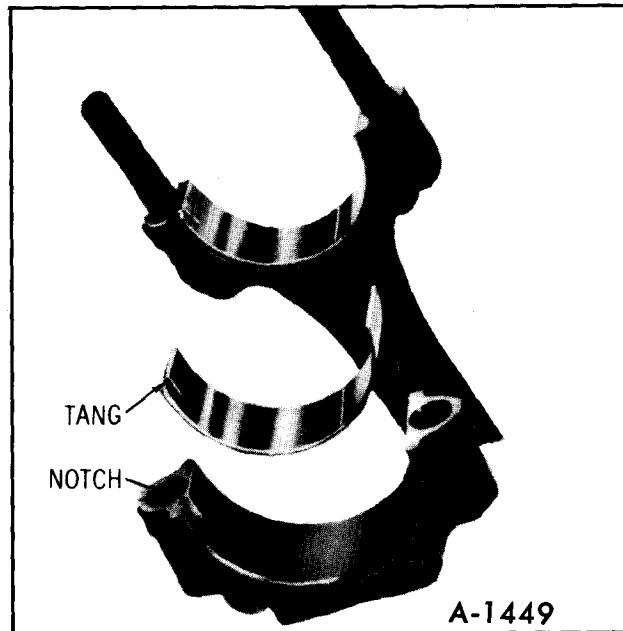

Figure 42—Bearing Tang and Notch
1. Place a strip of .0015" feeler gauge against the upper side of the bore, at 90° to the normal piston pin location. Attach a scale which measures in pounds to a feeler gauge. See Figure 42.